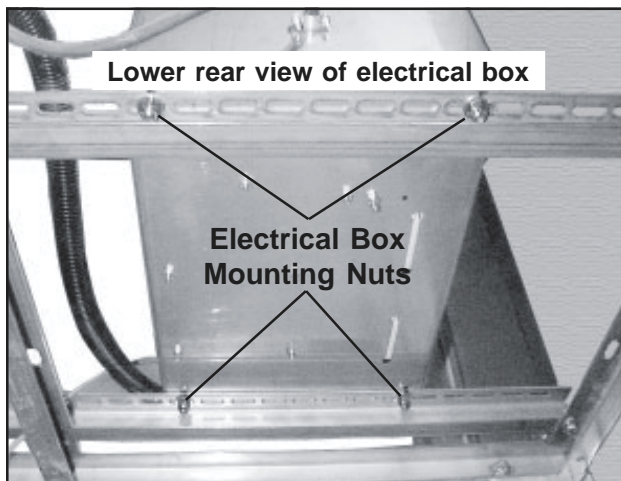

Figure 120. Electrical Box Mounting Nuts
13. With a 1/2 in. wrench, unscrew the four nuts/washers that hold the electrical box to the base frame (Figure 120).